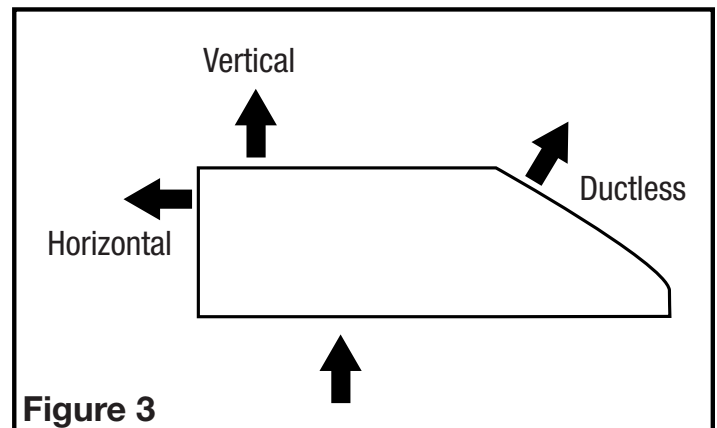

Figure 3
1. Choose the type of ducting you will require. This model is equipped to vent either Vertically or Horizontally through a 3-1/4" x 10" duct or through a 7" round duct. It can be modified to be ductless (re-circulates the air back into the kitchen) with the addition of a model CF-09S Charcoal Filter (not included) (**Figure 3**).